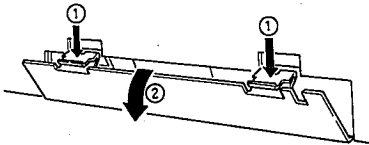

Fig. 2
2. Open the battery/AC mains lead compartment lid by pushing the knob as shown in Fig. 2.